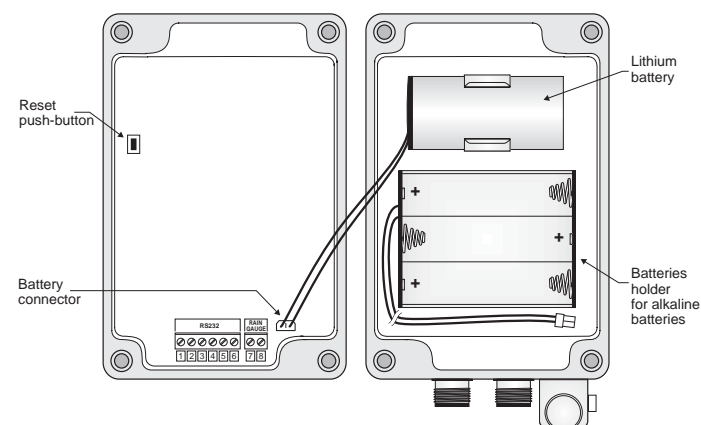

Fig. 5: Inside view of the data logger
6. as an alternative to the lithium battery, if not available, three 1.5 V alkaline batteries can be used, to be inserted in the batteries holder shown in figure 5. In such a case, connect the batteries holder connector to the battery connector on the board of the instrument;